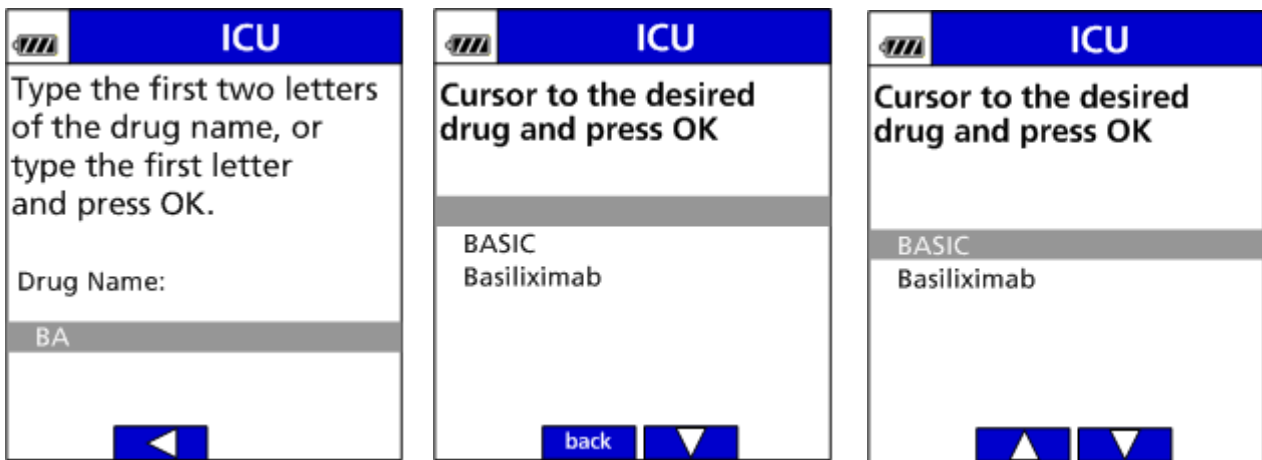

Figure 31. Select BASIC at Drug Selection Screen.
- Using the keypad, type the letters BA, select BASIC and press OK. (See Figure 31.)